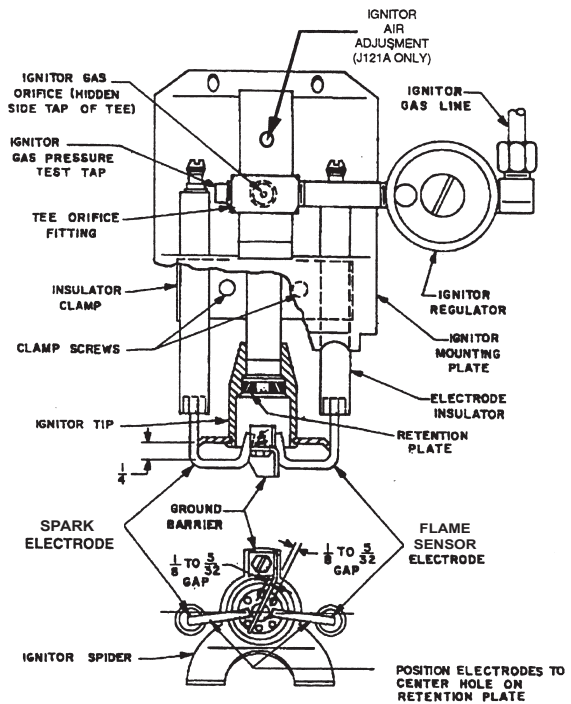

Figure 5 - Type "3" Ignitor and Regulator Assembly
When the ignitor gas pressure is in the proper range (see Table 4) and the electrodes are adjusted to the dimensions shown in Figure 5, any ignition problems are usually caused by lint, dust, corrosion, cracked electrode insulators, foreign matter in the blast tube or deterioration of ignitor ports in Retention Plate.
Ignitor trouble will be evidenced by failure of main burner ignition. It may also be indicated by poor or erratic relay response which cannot be remedied by ignitor gas adjustment, or it may cause frequent Flame Safeguard lockout. Check for dirt in the ignitor air and mixture passageways and check for obstructions in the ignitor ports. Also check electrode adjustments (see Figure 5). Replace any severely burned parts.
Clean the Ignitor Gas Orifice in Tee Orifice Fitting (see Figure 5) and check that the orifice size is correct per Table 4.
Check that the electrode ends are positioned and that the gap between the end of each electrode and the ground barrier is spaced per Figure 5.
- b. No flame present, clean and reset electrode assembly per Figure 5 and repeat Step 6a.